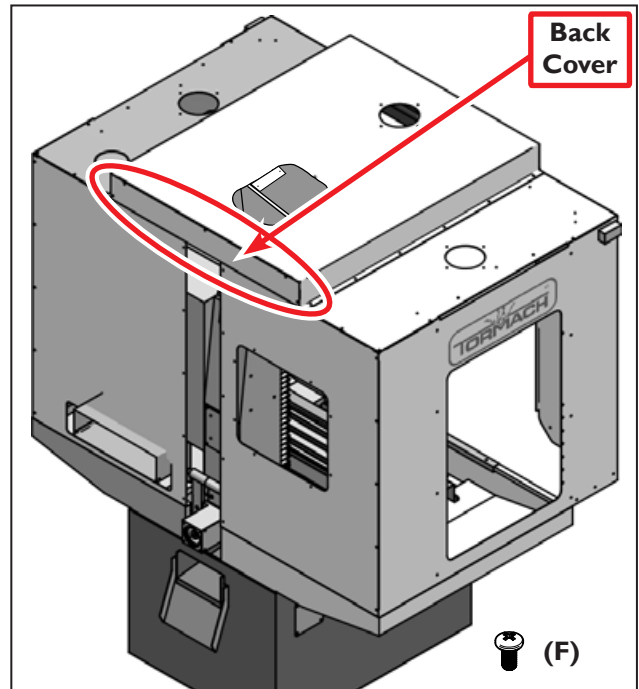

Figure I3
31. Place the center Back Cover (E.36) onto the back (see **Figure I3**). Loosely fasten with (F) screws along the side and top edges of the front panel.